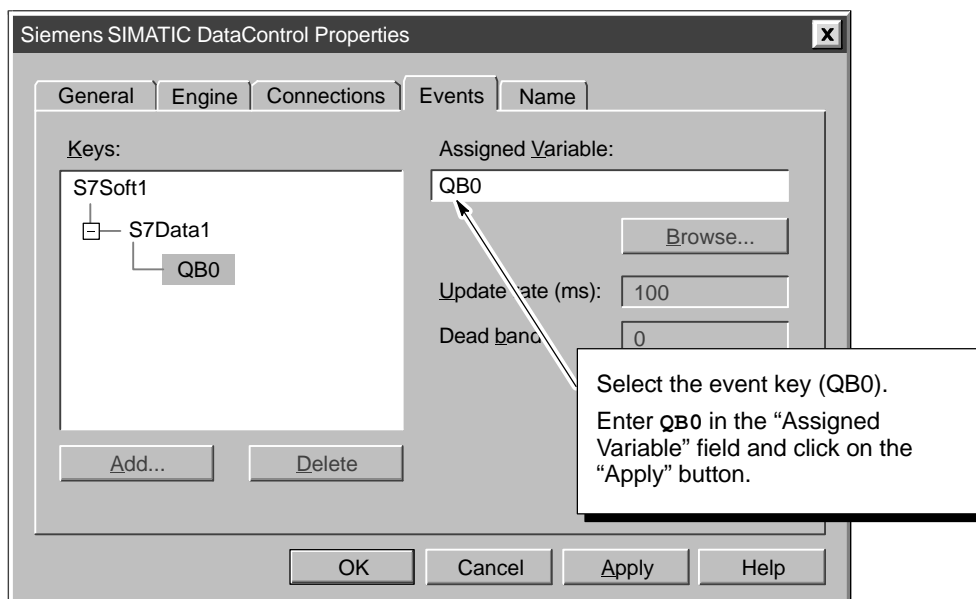

Figure 1-16 Assigning a Variable to an Event Key
3. In the "Properties" dialog box, enter memory address **QB0** in the "Assigned Variable" field. See Figure 1-16.